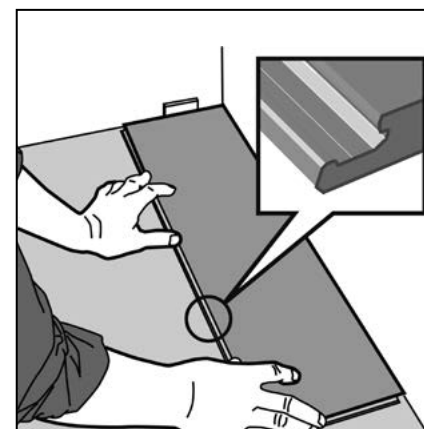

Figure 1 First plank, first row
- ▶ Start to lay the floor in the left-hand corner of the room with the lower edge profile on the long edge facing towards you. (Fig 1)